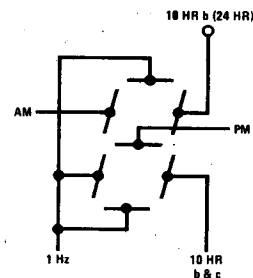

FIGURE 6. 24-Hour Operation: 10's of Hours Digit Connections
**12 or 24 Hour Select Input:** By leaving this pin unconnected, the outputs for the most-significant display digit (10's of hours) are programmed to provide a 12-hour display format. An internal depletion pull-up device is again provided. Connecting this pin to VSS programs the 24-hour display format. Segment connections for 10's of hours in 24-hour mode are shown in *Figure 6*.